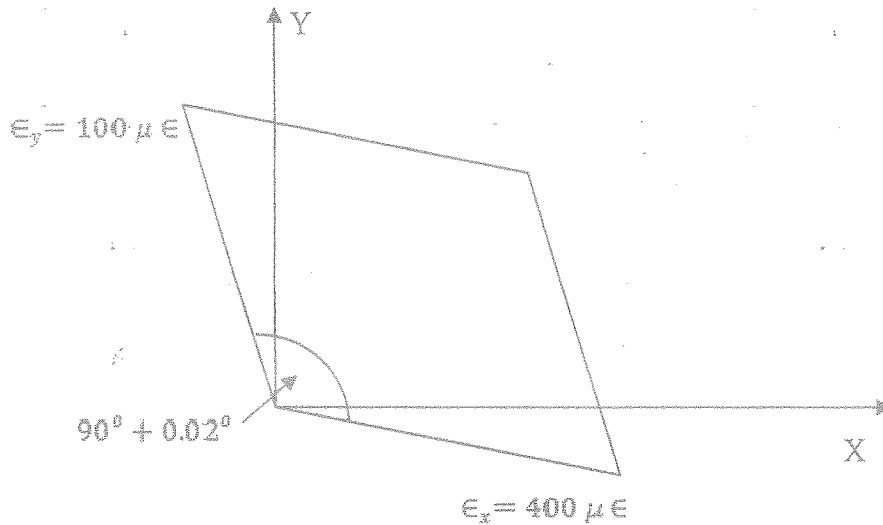

Figure Q5
- Q5. A square element is distorted under the action of a plane stress field, resulting in the strains shown in Figure Q5. Determine the followings.